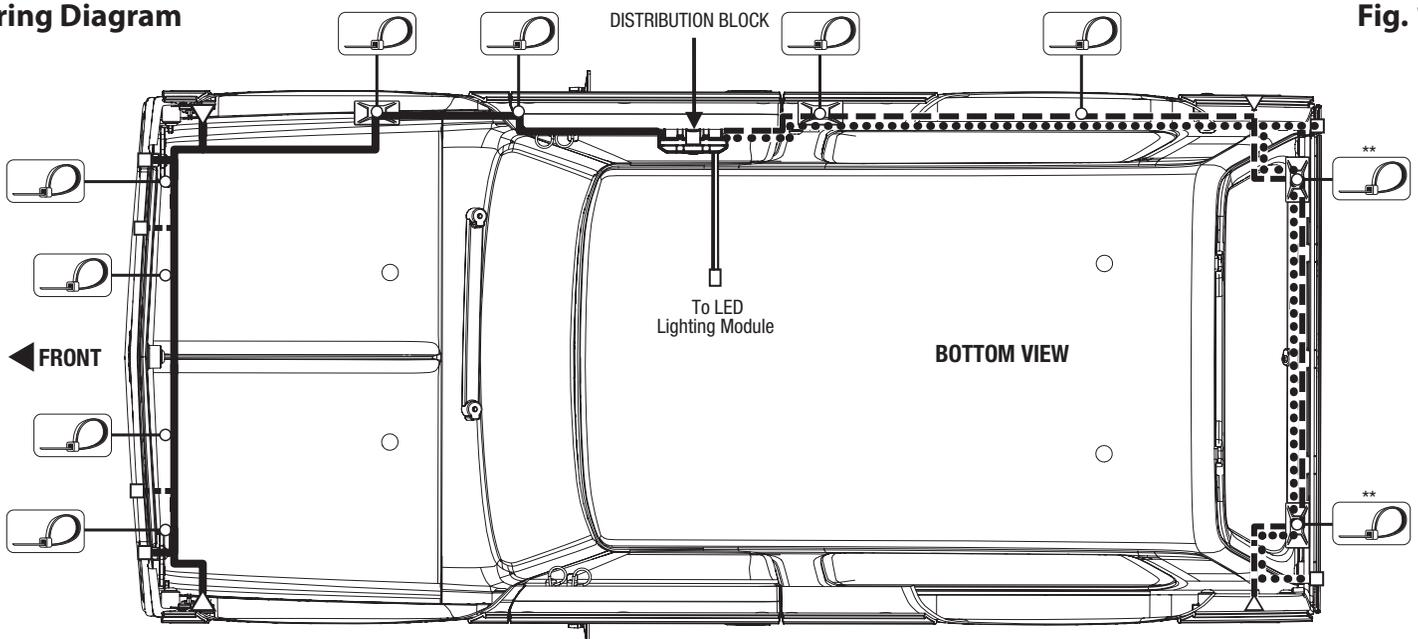

Fig. 10
Wire Routing (Fig. 10)
When installing the LED light harnesses, note where the installation begins and ends in the Wiring Diagram (Fig. 10). Install the included zip tie mounts and use zip ties to secure the wiring to the body in the locations provided. The zip ties do not need to be tight; allow some slack for wire movement.
5. Plug the connectors from the LED light wire harnesses into the ports of the distribution block (M). Match the color band on the wire harnesses with the corresponding color of each port indicator on the distribution block (white for headlights and front side marker lights, red for tail lights, blue for rear side marker lights).
6. Plug the included jumper into the green port of the distribution block as indicated (see Wiring Diagram, Fig. 10). **Note:** The jumper will allow the LED lights to go into full power (high beam) mode. The jumper is not required for the LED lights to function (the lights will remain in low power (low beam) mode if the jumper is not used).